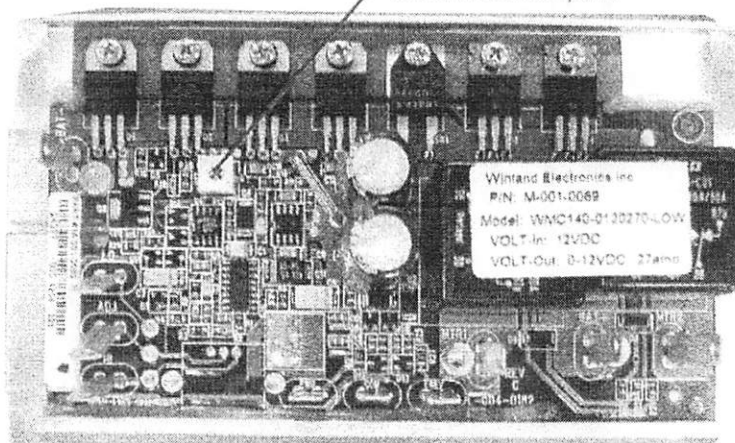

Figure 16
A. Unit should always start at minimum speed and then increase speed dial in a clockwise manner. In rare instances the units controller may be inadvertently turned down to a low setting causing insufficient power to be sent to the motor. The controller (See Figure 16) is located under the hood just behind the battery and is bolted to the underside of a flat bracket using four screws. Unscrew the screws attaching the controller to the frame and view the controller as in figure 17. The set screw identified in the picture should be turned very gently using a phillips screwdriver, in a clockwise direction until it stops. This is its maximum and proper setting for this use. Replace controller, insuring wiring is intact, to bracket using screws and replace hood. Try Tow Buddy again, being sure to start with the speed dial set to the lowest setting. Once it starts to move, then increase the speed dial to the desired speed.